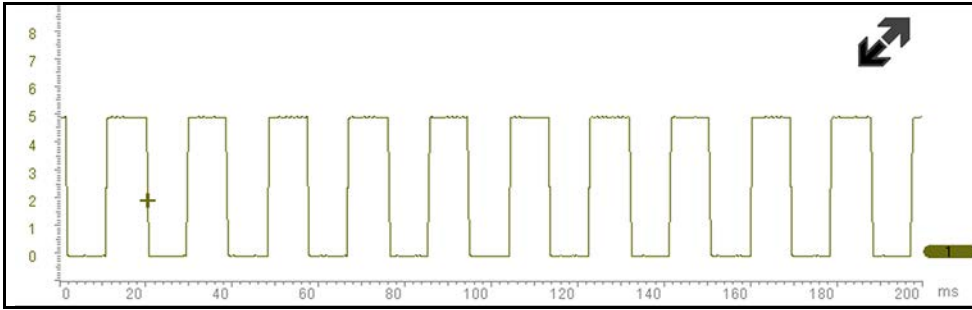

Figure 12-39
**1** - Monitoring / Capturing waveform as it displays normally (*Figure 12-39*). You may not see a glitch, while monitoring at this setting.